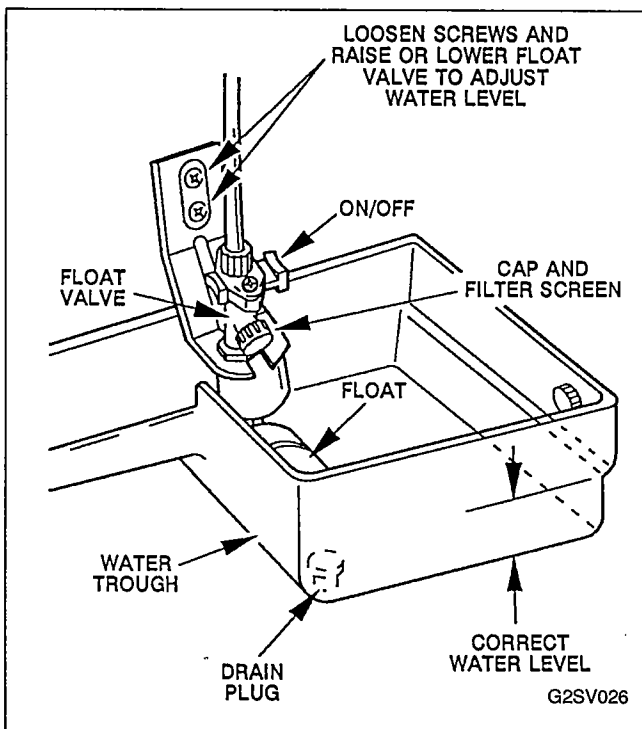

FIGURE 39. FLOAT VALVE CHECK
2. Remove drain plug from trough and allow water to drain. See Figure 39.